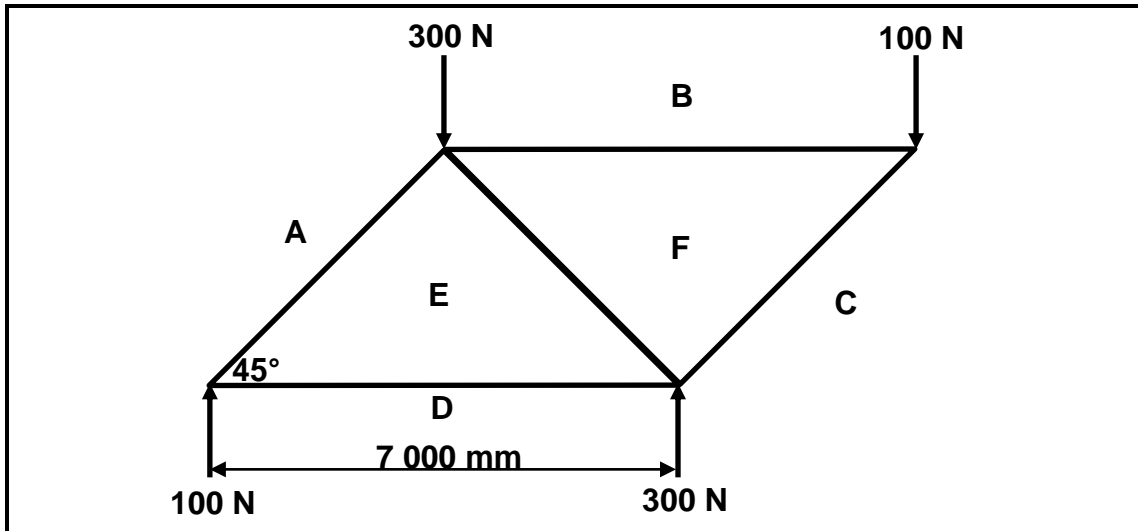

FIGURE 7.1
7.1 Graphically determine the magnitude and type of member in the framework shown in FIGURE 7.1 below. Members: **AE**, **BF**, **CF**, **DE** and **EF**.